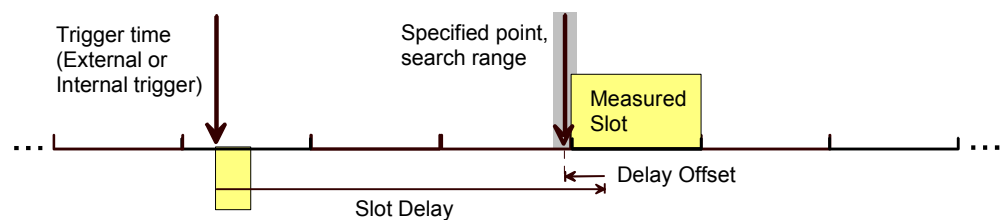

Fig. 4-79 Slot Delay and Delay Offset
- External* External trigger signal fed in via connector AUX 3 (pin 8)². The required timing information is provided by the rising or falling edge (see *Slope* setting below) of an external trigger signal to which a trigger delay can be added. The beginning of the measured slot is searched in a symmetric time range of ± 380 chips around the specified point, which is given by the trigger time plus the defined trigger delay (see Fig. 4-79 below). Compared to the *Free Run* mode, the search range is smaller so that the measurement is faster.
- Internal* Trigger provided by internal RF generator (with option CMU-K66, *WCDMA (3GPP/FDD, DL) Generator*, only), according to the frame timing of the UL signal re-transmitted by the UE under test (frame trigger). The CMU assumes a delay of 1024 chip periods between the downlink and the uplink timing (3GPP standard timing offset). The beginning of the measured slot is searched as described for the *External* trigger (exception: *Inner Loop TPC* measurement; see section *Test Scenarios for Inner Loop TPC* on p. 4.4). Again, a trigger delay can be added to the frame trigger time (see Fig. 4-79 below). In addition to the frame trigger time, a slot trigger signal at the beginning of each DL slot and a TPC trigger signal at the beginning of each TPC profile is provided.
The frame and slot trigger signals are always available while the RF generator is switched on. The TPC trigger is available while the generator transfers a TPC pattern. The trigger signals are also fed to pin 2 (frame trigger), pin 3 (slot trigger), and pin 4 (TPC trigger) of the AUX 3 connector at the front of the instrument where they can be tapped off to synchronize external devices. All trigger signals are low-pulse TTL signals with a length of $\frac{1}{4}$ slot ($166 \frac{2}{3} \mu\text{s}$); see Fig. 4-79 below.
Trigger – Slot Delay The *Slot Delay* parameter defines a delay time (integer number of slots) between the trigger time and the start of the measurement. If a frame-periodic internal or external trigger signal is available, *Slot Delay* can be used to select any slot of the frame as measured slot. An additional *Delay Offset* can be added to the *Slot Delay*; see Fig. 4-79 below.